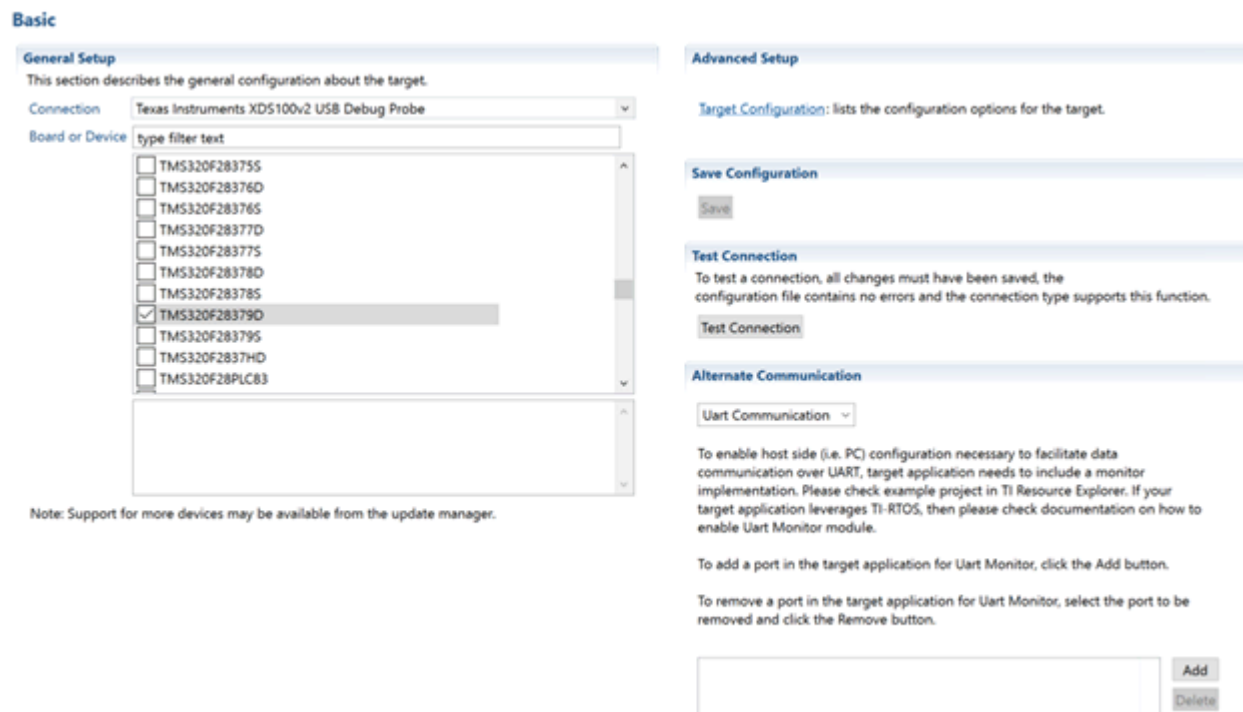

Figure 3-2. Configuring New Target Configuration
3. A new configuration file can be set by clicking *View* → *Target Configuration*. This procedure opens the Target Configuration window (see Figure 3-2).
This step opens a new tab, as shown in Figure 3-2.